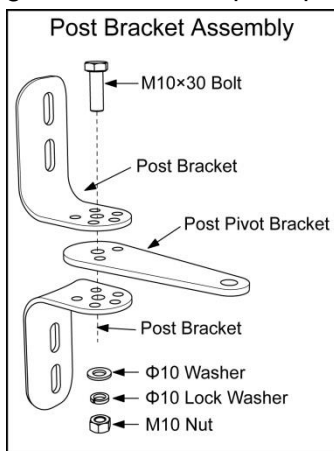

Figure 6
1. Insert the M10 x 30 bolt through the center hole of the post bracket and post pivot bracket as shown in Figure 6. Place a  $\Phi 10$  washer,  $\Phi 10$  spring washer and M10 nut on the bottom of the bolt and hand tighten so that the pivot plate can swivel.